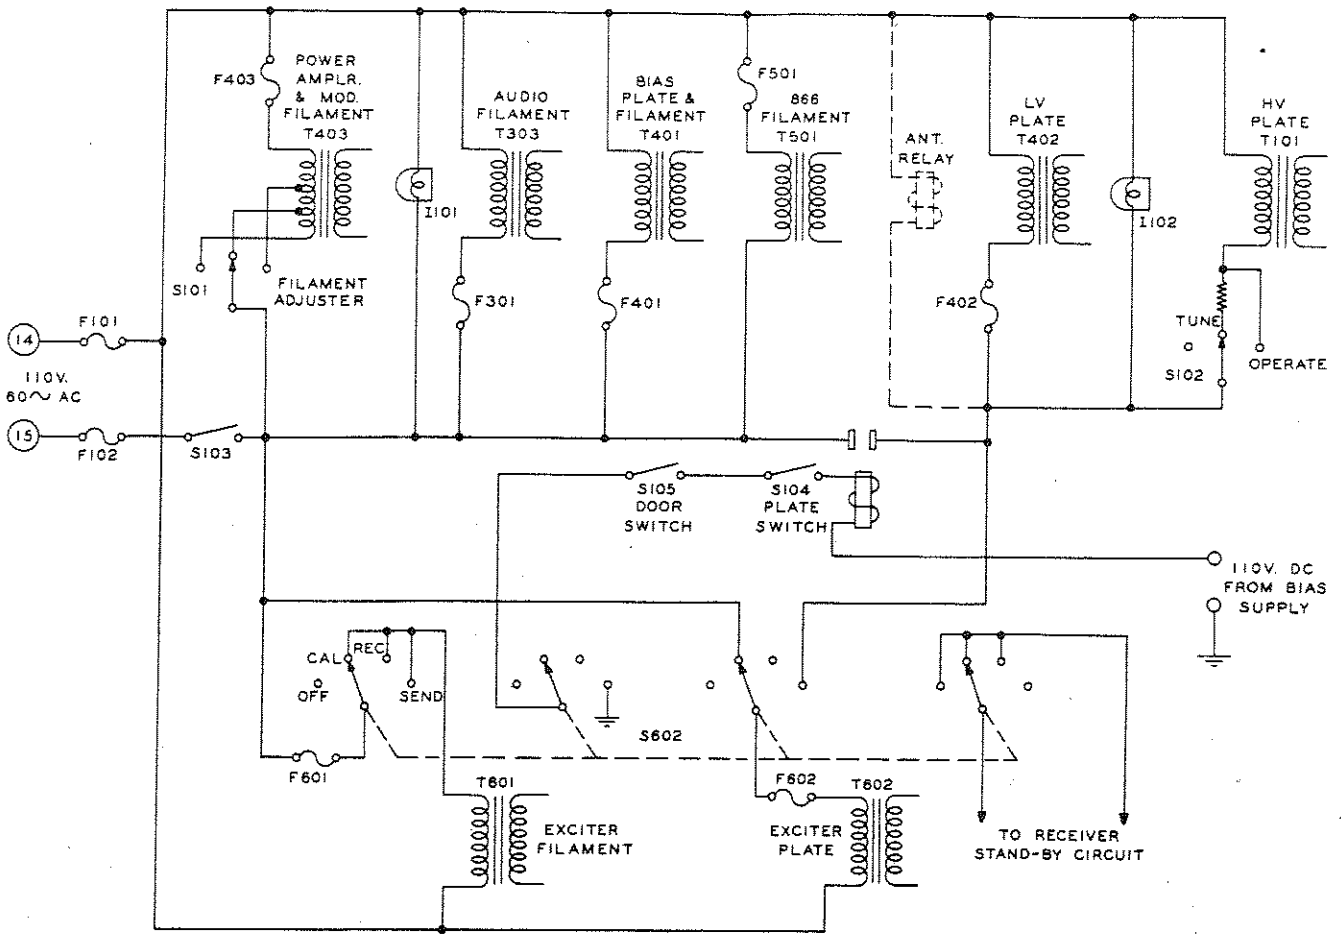

Figure 2-1 Primary Power Circuits
b. PRIMARY POWER CIRCUITS. - Refer to figure 2-1. The filament transformers T303, T403, and T501 and the bias supply transformer T401 are energized when the FILAMENT switch S103 is closed. Each of the above transformers is protected by a fuse. The primary adjustment taps on filament transformer T403 are brought out to a tap switch S101 which is used to adjust the filament voltage to the PA and modulator tubes. Low voltage plate transformer T402 and high voltage plate transformer T101 are energized by the operation of plate power relay K401 which is operated when the PLATE switch is closed. Since operating voltage